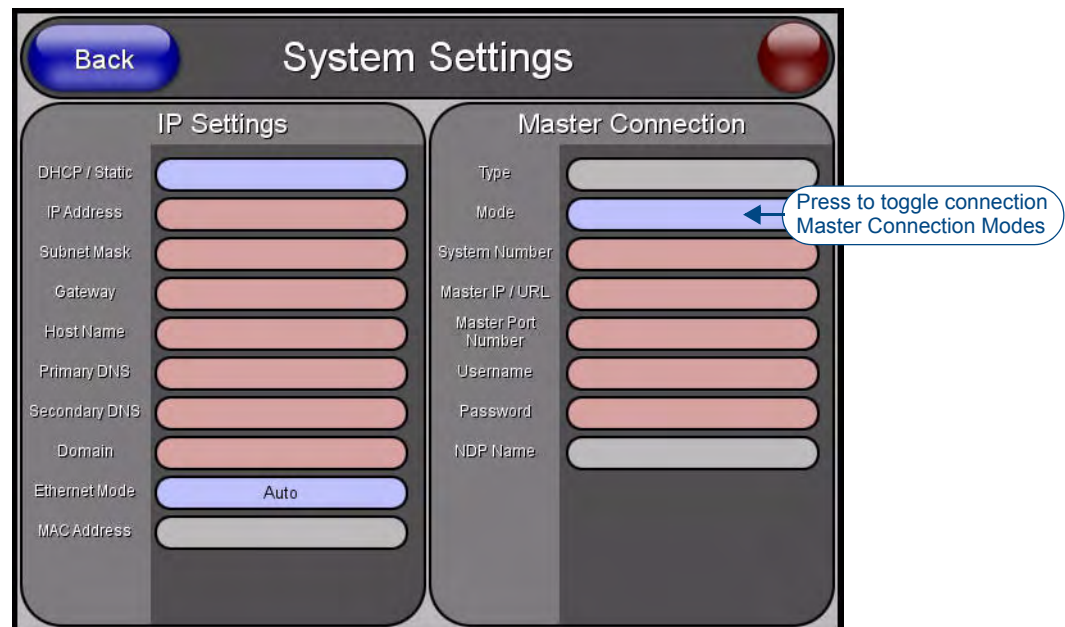

FIG. 45 System Settings page
- c. Press the **System Settings** button to open the *System Settings* page (FIG. 45).